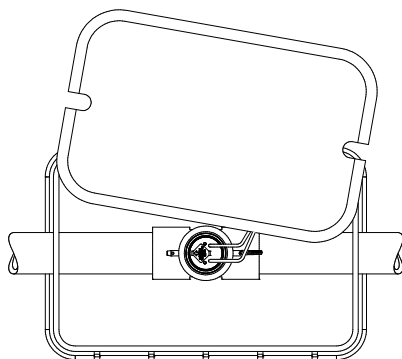

Figure 7
1. Install a valve box around the insert. Valve box extensions may be needed depending on depth (see Figure 7).